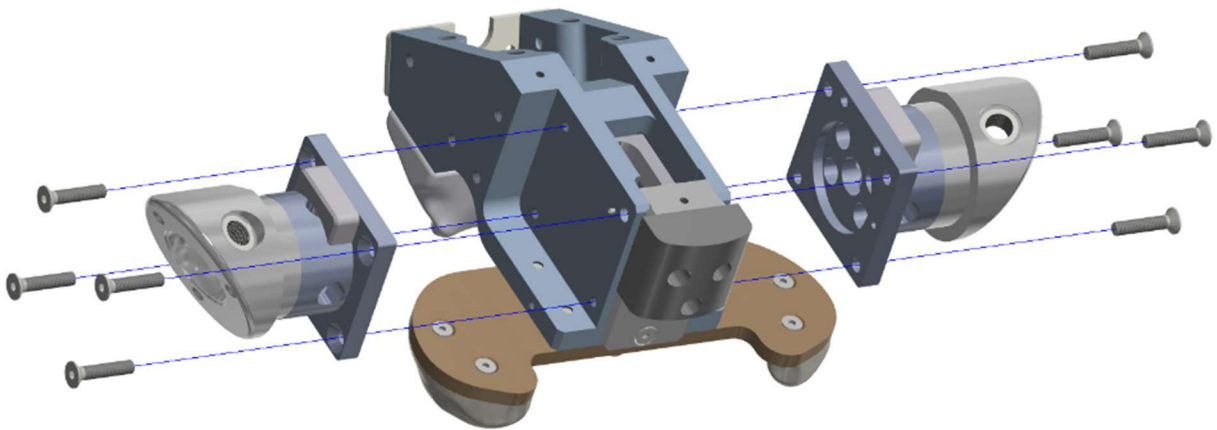

Figure 8-16. Remove the Left and Right Acetabulum Load Cell (SA572-S108 & SA572-S109) from the Pelvic Bone (474-4541)
8.2.12 Remove the Left and Right Acetabulum Load Cell (SA572-S108 & SA572-S109) from the Pelvic Bone (474-4541) by removing four M5 X 0.8 X 25 LG. FHCS (Figure 8-16).